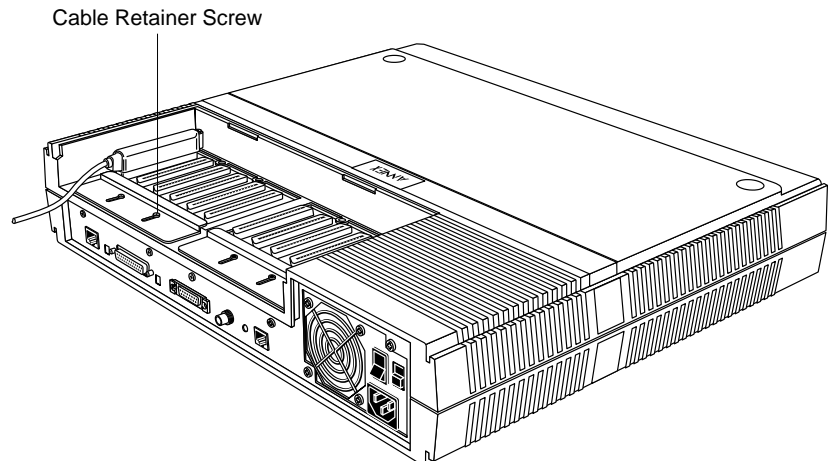

Figure 2-11. Securing the PBX Connector
- 5 Slide the cable retainer forward, making sure that the lip of the retainer secures the connector (see Figure 2-11).